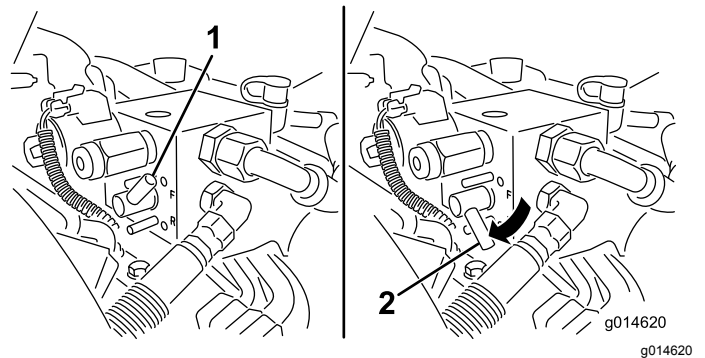

Figure 49
5. Rotate the backlap lever to the REVERSE (R) position (Figure 49).